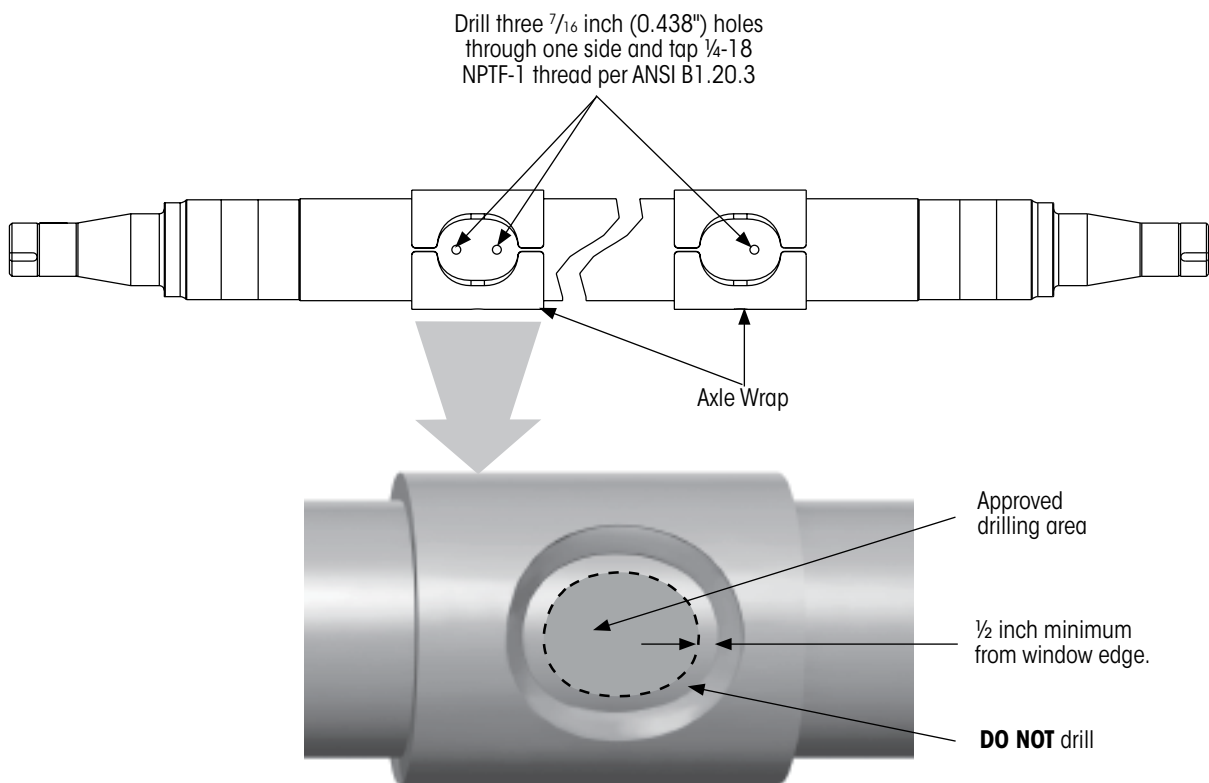
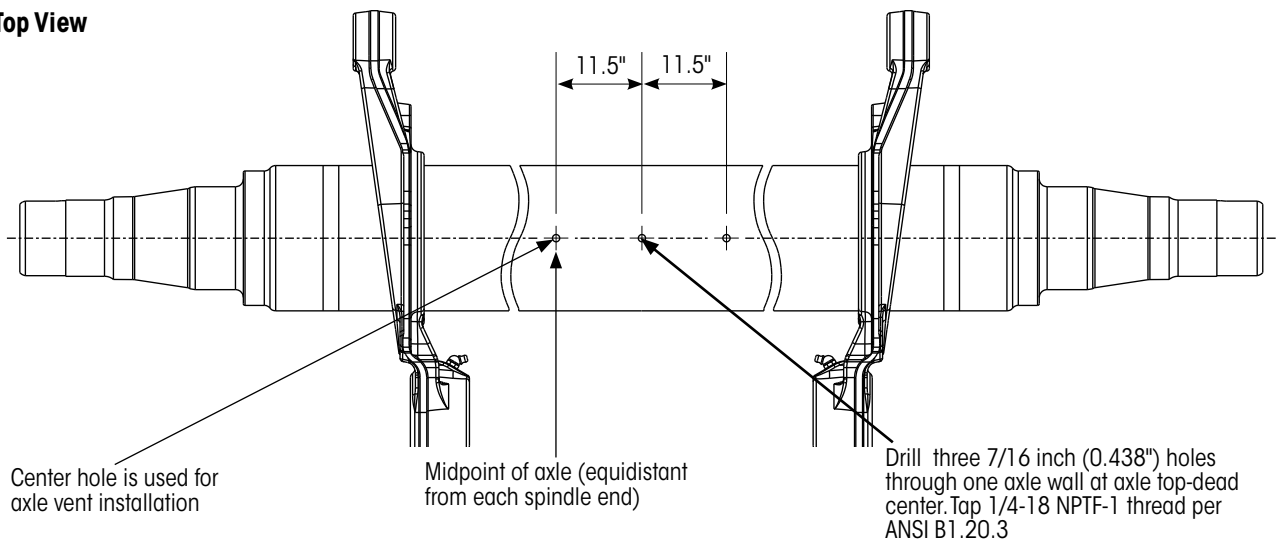

Figure 7: INTRAAX®/VANTRAAX® suspension axle drilling details
Figure 8: Hendrickson TRLAXLE® drilling details
9. Using the information in Figure 7 or Figure 8, drill and tap three ¼ inch - 18 NPT holes in the axle wrap windows (on INTRAAX and VANTRAAX suspensions) or at the midpoint of the axle (on Hendrickson TRLAXLE Trailer Axles).
NOTE: Figure 8 drilling details are for Hendrickson TRLAXLE®. If other than TRLAXLE, refer to L980 for drilled axle installation orientation.